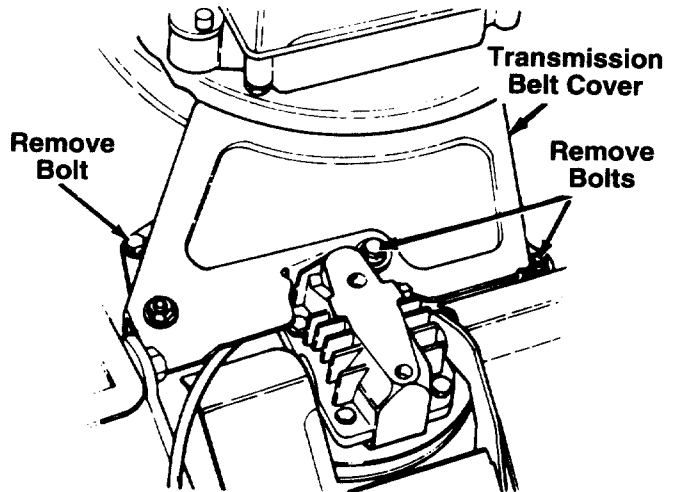

FIGURE 13.
4. Remove the transmission belt cover by removing three bolts. See figure 13.